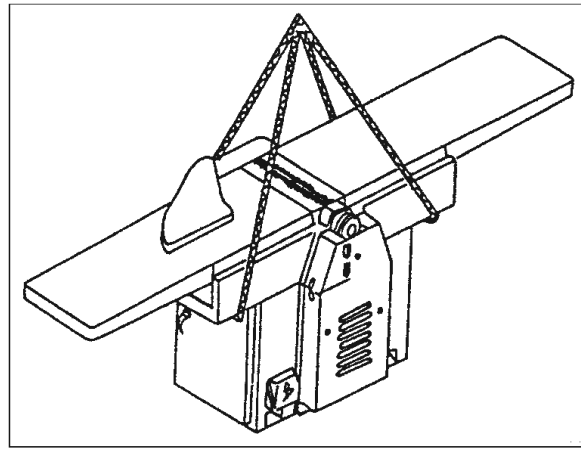

Figure 1
3. Raise the jointer off the skid with lifting straps. The straps should be suitable to lift 762 pounds of weight and should be placed under the base casting as shown in Figure 1. Do not lift the jointer under the infeed and outfeed tables.